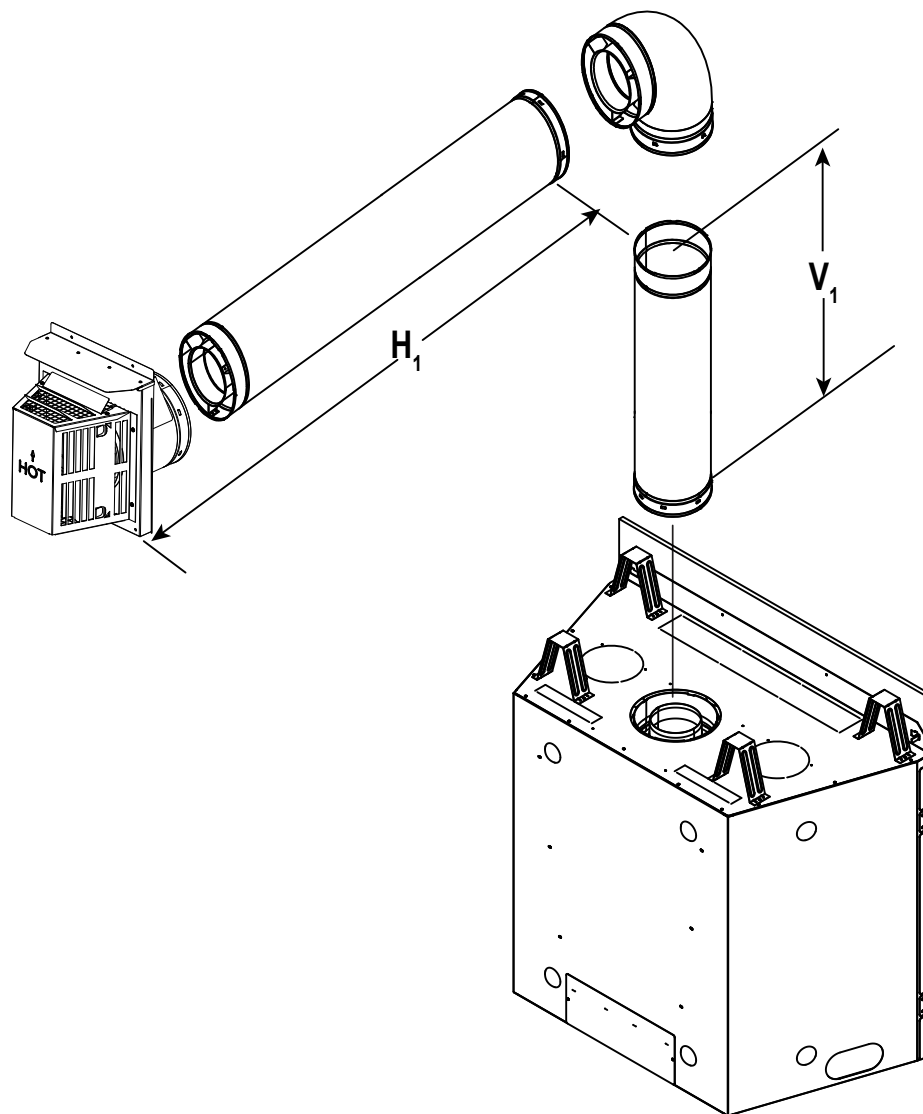

Figure 4.11
**WARNING! Risk of Fire! Elbow heat shield required when  $V_1 = 2$  ft. or less. Clearances to combustibles must be maintained. See Figure 4.11.**